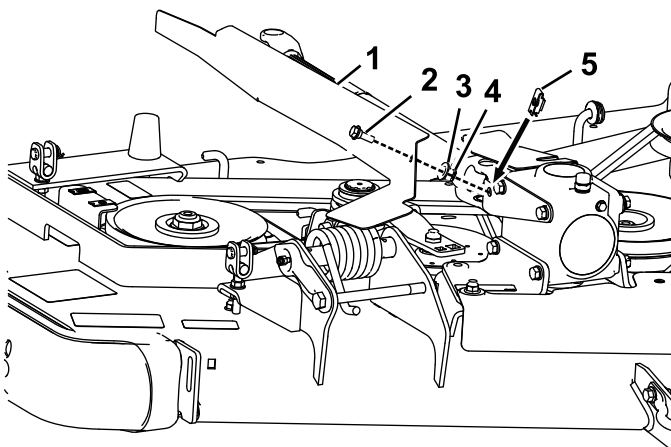

Figure 8
1. Install the retainer nut over the empty hole in the pivot bracket (Figure 8).
2. Install the shoulder screw, flat washer and push nut to the drive shaft shield (Figure 8).
3. While inserting the end of the drive shaft shield into the shield support, which was assembled in procedure 5, secure the other end of the shield to the retainer nut in the pivot bracket with the shoulder screw (Figure 8).